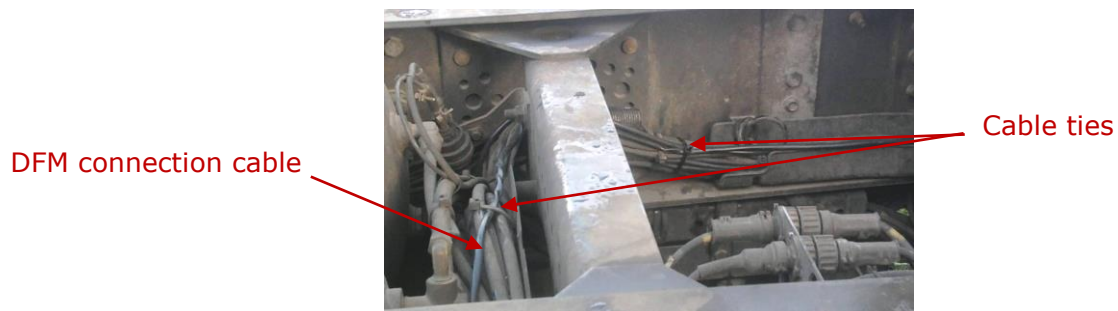

Figure 25 — Laying DFM connection cable
- 5)** It is **strongly recommended** to lay DFM connection cable together with standard electrical vehicle wiring with mandatory cable ties fixing of every 50 cm (see figure 25).